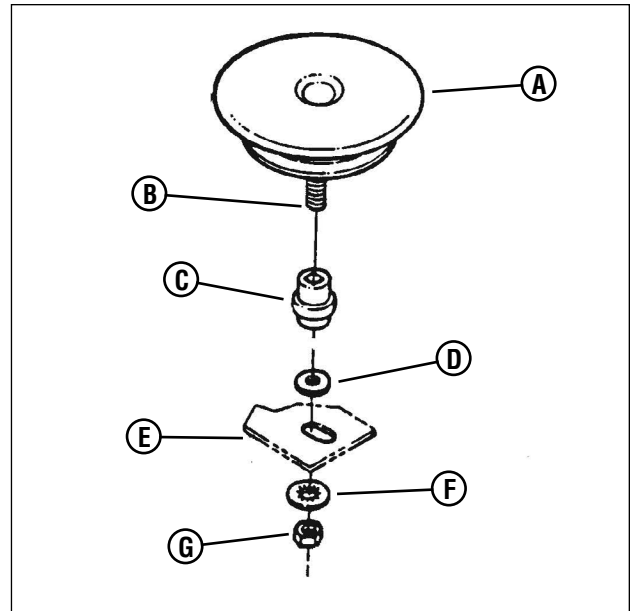

Figure 33: Removing the drive disc
5. Hold the slotted end of the drive disc bolt (**B**, **Figure 33**) with a screwdriver and remove the nut (**G**) and internal tooth lock washer (**F**).